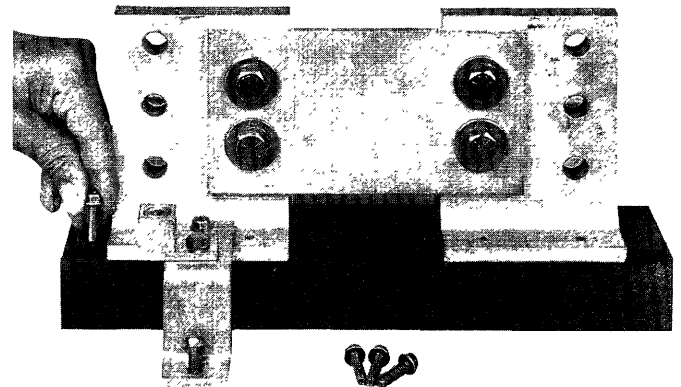

Figure 3. Attaching the neutral block to the back panel with the screws provided.
3. Attach the neutral block to the back panel with the four  $\frac{1}{4}$ -20 x  $\frac{7}{8}$ " screws provided, as shown in Figure 3. Tighten the screws to 40–50 lb-in.